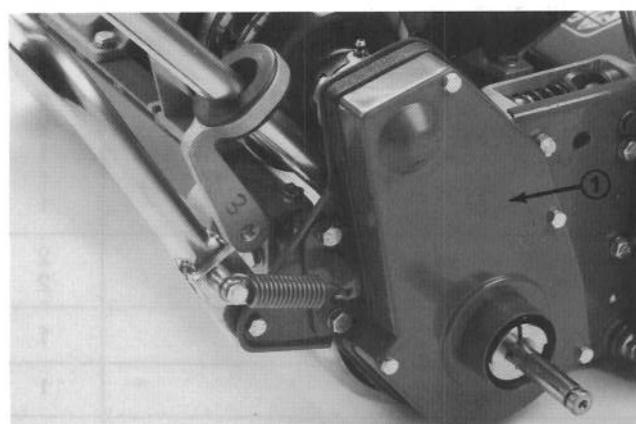

Figure 5
4. Hook spring onto bracket on right side of mower. Pivot kickstand upward and secure spring retainer to kick stand with a 5/16-18 x 2" lg. capscrew (Fig. 5).
2. Remove capscrews securing rear belt covers to machine and remove covers (Fig. 5).